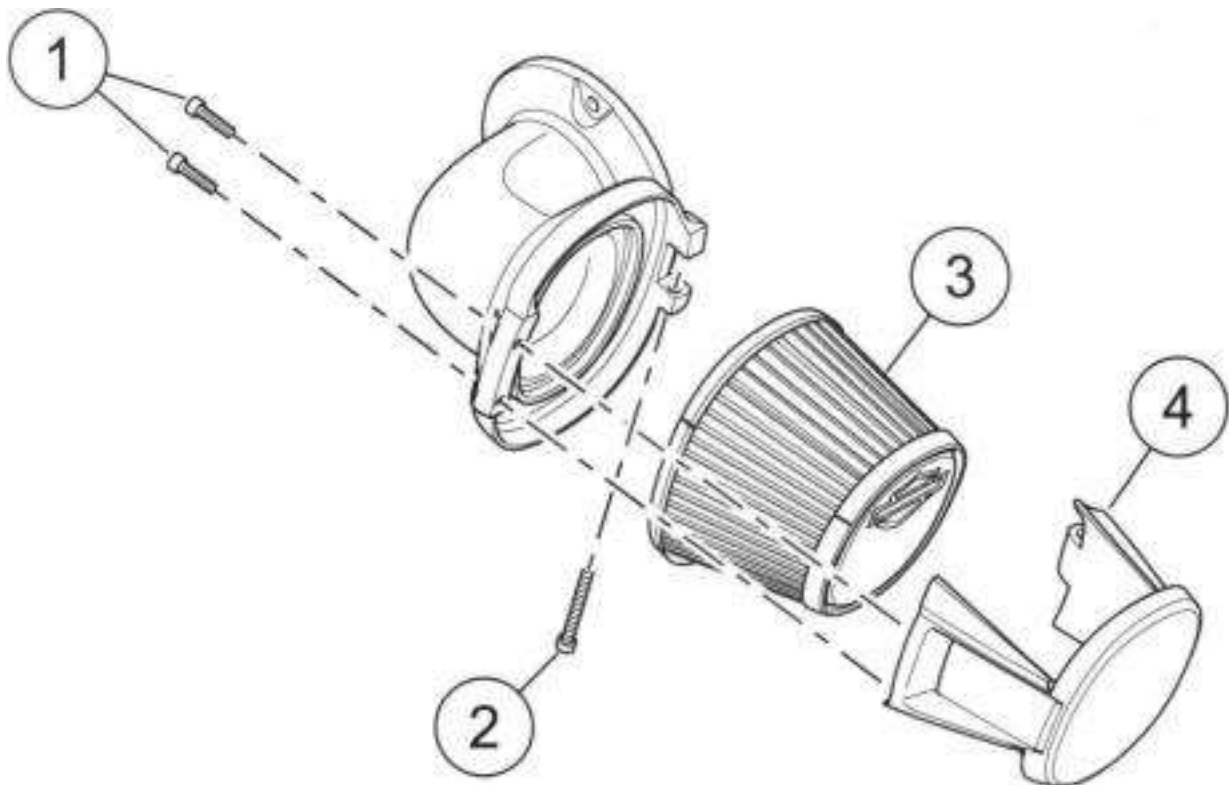

Figure 2-46. Air Filter Element
- a. See Figure 2-46. Remove screws (1, 2).
- b. Remove cover (4).
- c. Remove air filter element (3).
- a. See Figure 2-46. Apply threadlocker to screws (1, 2).